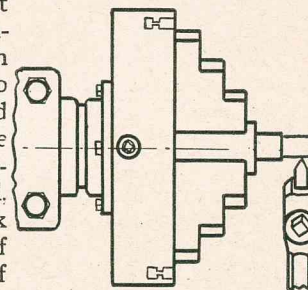
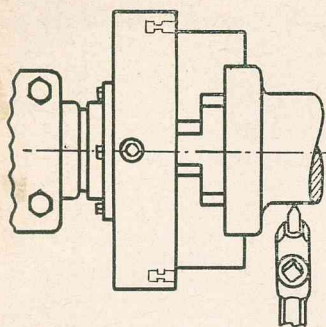

FIG. 66
FIG. 67
For small diameter, short work jaws should be inserted in the chuck with high ends to the center to give maximum gripping and maximum tool clearance (Fig. 66). For large diameter work on the other hand, jaws are inserted in chuck slots with the high steps of the jaws to the outside of the chuck (Fig. 67).
4. Guided by chalk marks re-adjust jaws until a chalk line will carry completely around the work. Then tighten all jaws securely. When making several identical pieces after finishing work release only two adjoining jaws leaving the other to hold the center. Jaws of 4-jaw independent chucks are reversible—can be inserted with high steps inside or to the outside. (Figs. 66, 67 and 68)